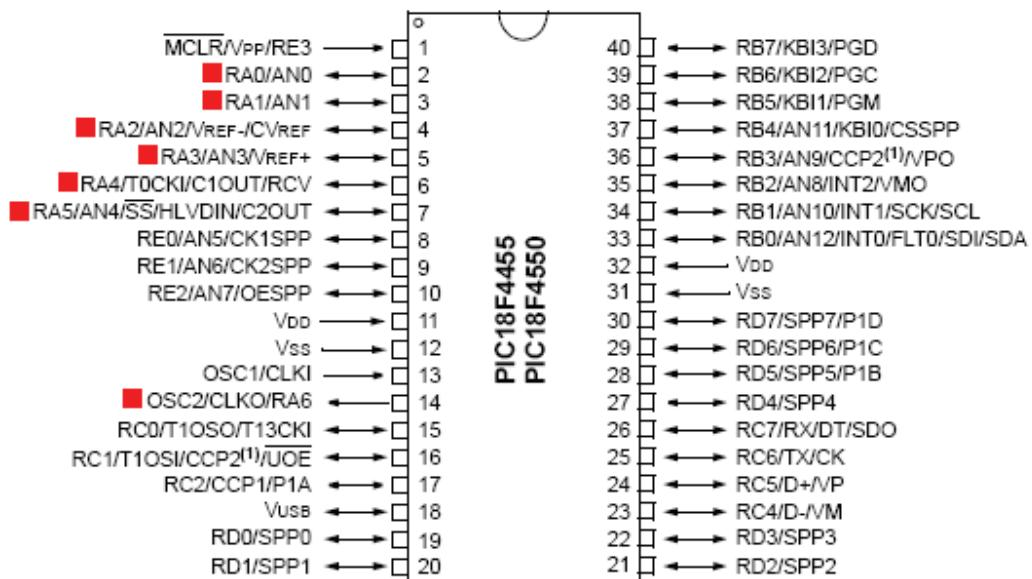

Figure 3.2 – PIC18F4550 I/O ports
- Examine the PIC18F4550 pin diagram (in Figure 3.2) again. Where are the 8 Port B pins RB7-0? What other peripherals use these pins?